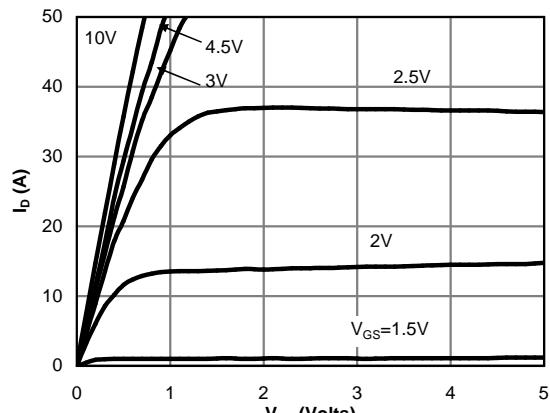

Fig 1: On-Region Characteristics
D. The static characteristics in Figures 1 to 6 are obtained using  $<300\ \mu\text{s}$  pulses, duty cycle 0.5% max.